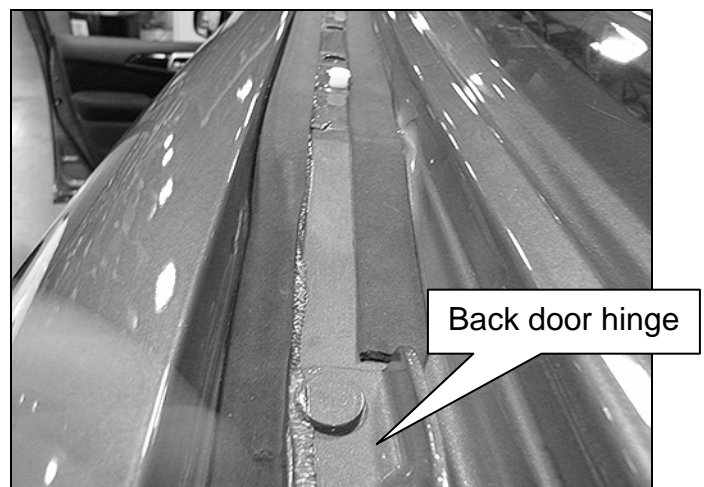

Figure 15
- h. Cut the excess foam tape to approximately the length shown in Figure 15.